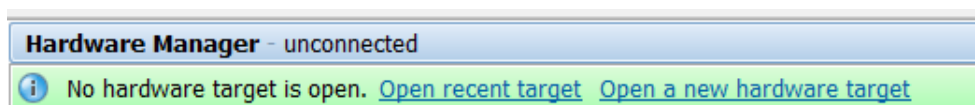

Figure A-3: Hardware Manager
4. Select **Open a New Hardware Target** (see Figure A-3).